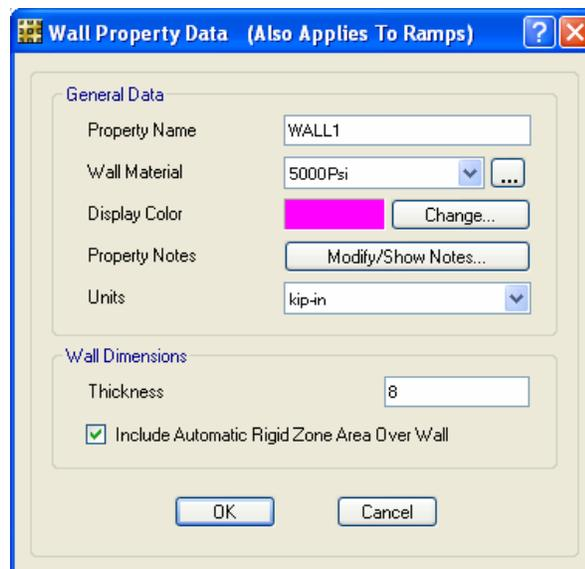

Figure 65 Wall Property Data form
- C. Click the **Modify/Show Property** button to access the Wall Property Data form shown in Figure 65. Recall that the walls for the project are 8-inch thick.